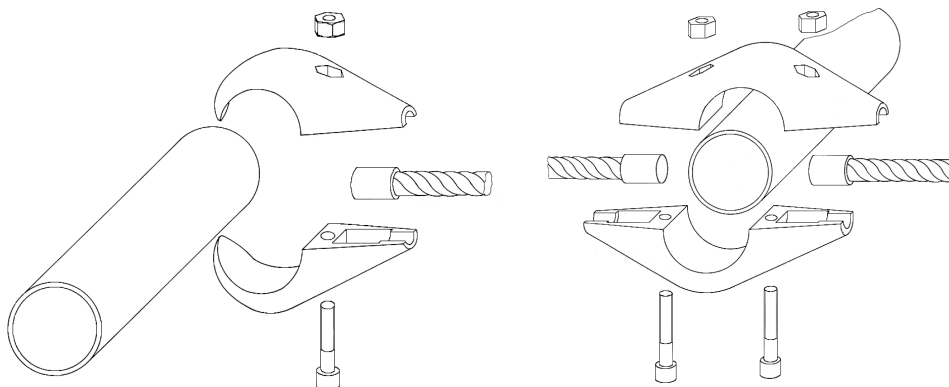

Figure 8: Schematic diagram of rope clamps and various methods of attachment.
- A. The position of the rope clamps will depend on the position of the rope. Rope clamps have the same colour as structural posts $\varnothing 60$ or $\varnothing 48$. Depending on the fastening requirements you can use single, double or 90° rope clamps. Attach the rope clamps to the structural posts using hexagon socket screws (M10 x 45) and self-locking nuts (refer to Figure 8).